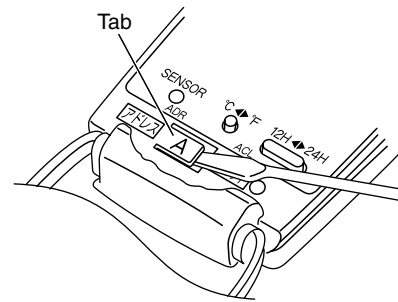
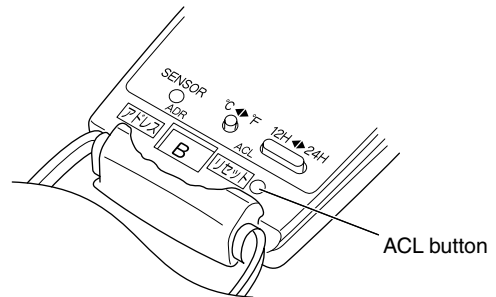

Fig. 13
Fig. 14
- (1) Switch on the power source.
- (2) Break the address-setting tab marked "A" on the second remote controller to change the address (Fig. 13). When the tab is removed, the address is automatically set to B (Fig. 14).
- (3) Press and hold the remote controller QUIET button and 1 HR TIMER button. At the same time, press the ACL(reset) button. Use a thin object such as the tip of a pen to press the ACL button. When this has been done, "oP-1" (test run) appears, blinking, in the remote controller clock display area.